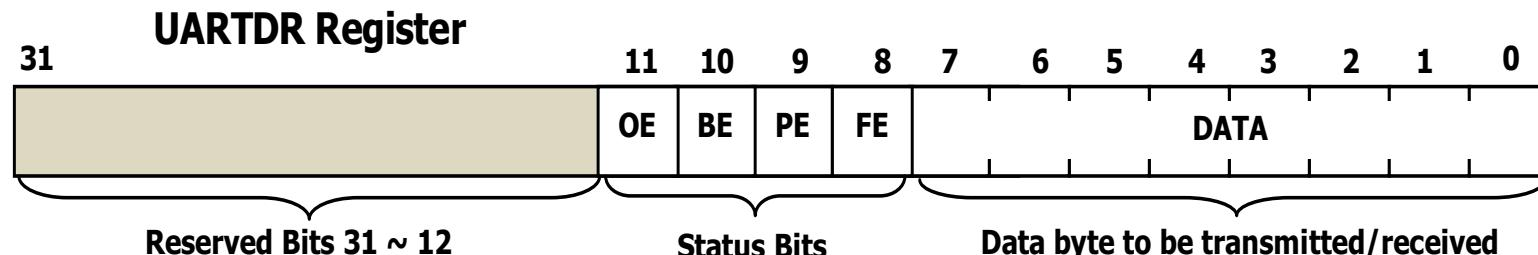

Figure 8.68 Bits configurations for UARTDR register.
- Figure 8.68 shows the bits configurations for the receive **UARTDR** register.